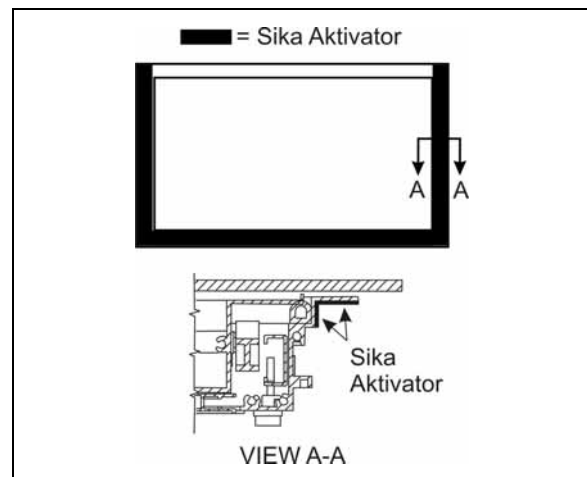

FIGURE 68 : AWNING WINDOW – SIKa AKTIVATOR
5. Previously clean surface with anti-silicone and then apply Sika Aktivator as per FIGURE 68;